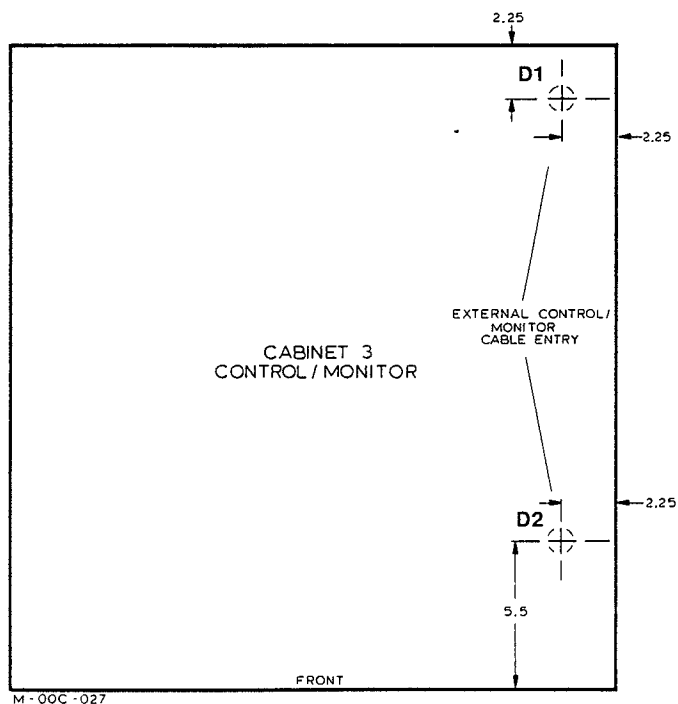

Figure 3-2 Location of Cable Entry Hole(s) in Control/Monitor Cabinet
The recommended location for cable entry is identified as 'D1' in figure 3-2. If ventilation ducts or baffles interfere with access to this area of the cabinet, the cable entry hole location identified as 'D2' may be used.
- (b) Determine the hole size for each conduit determined in step (a) and punch the required number of holes on the extended center line of the hole identified as 'D1' or 'D2' in figure 3-2, using a chassis punch of the required size. Use dimensions shown in figure 3-2 for hole center of right-hand hole.